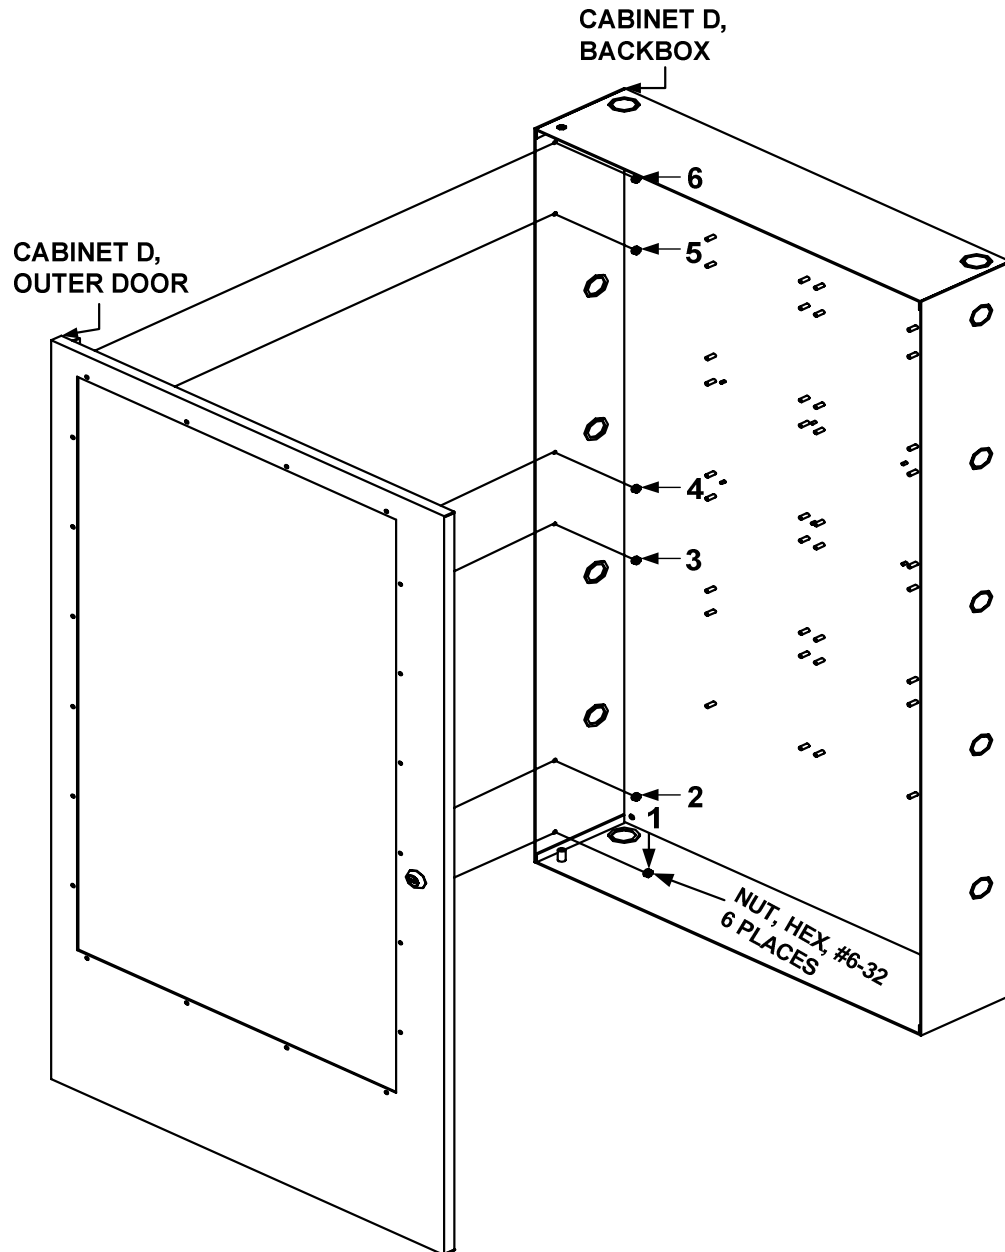

Figure 2.5.8.2 Cabinet D, Outer Door Installation
- 1) Mount the ILI-MB-E3 on the backbox and secure with eight (8), standoffs, (#4-40 x 1.0") in the eight-hole mounting pattern as shown in Location 1 of Figure 2.5.8.3.